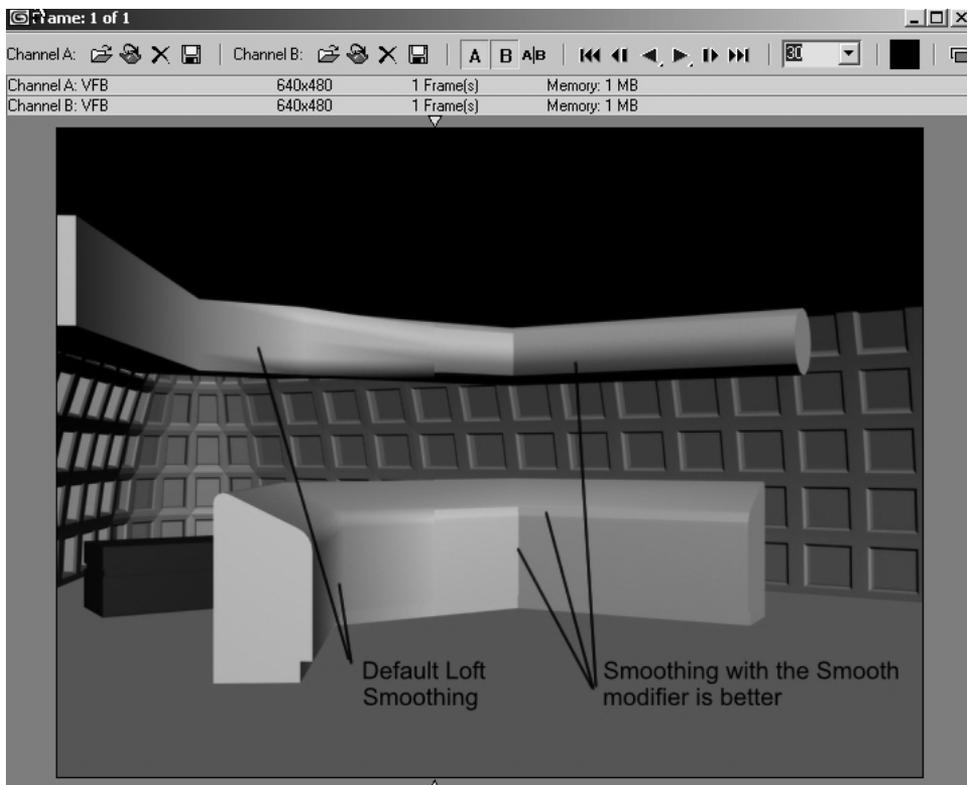

FIGURE 9.31 Default loft smoothing is shown on the left in the RAM Player (Channel A), and smoothing with the Smooth modifier is shown on the right.
5. Select the Duct01 and Wall01 objects and apply a single Smooth modifier to the two objects with Auto Smooth checked on and a threshold of 22.8 degrees. Render the Camera01 viewport. Maximize the RAM Player and click the Open Last Rendered Image in Channel B. Click OK. In the RAM Player, click and hold in the display area and move the cursor back and forth to compare the two images (see Figure 9.31).